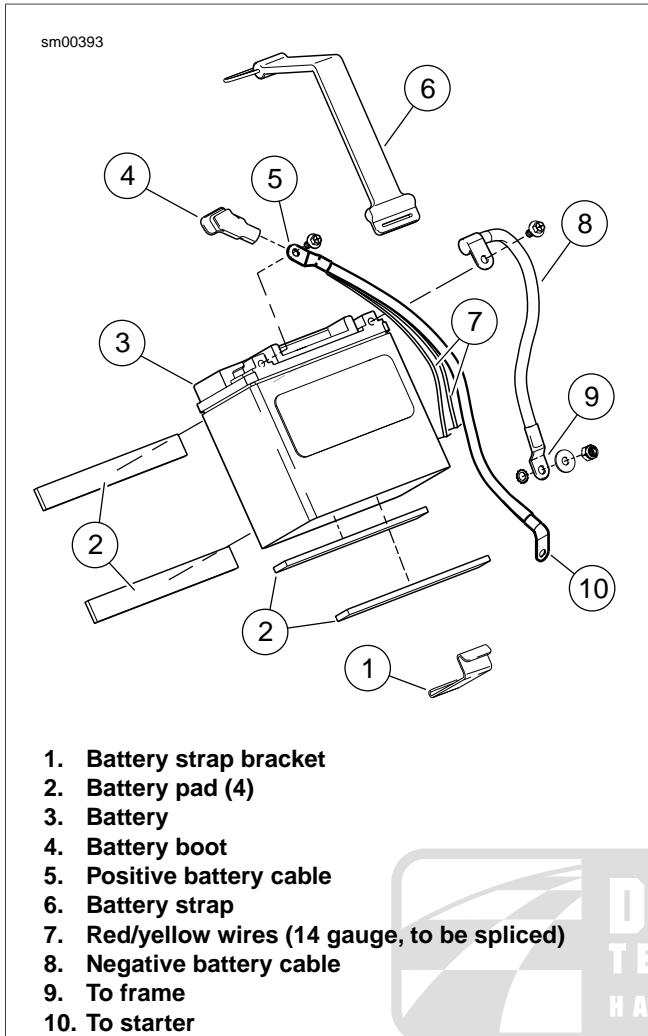
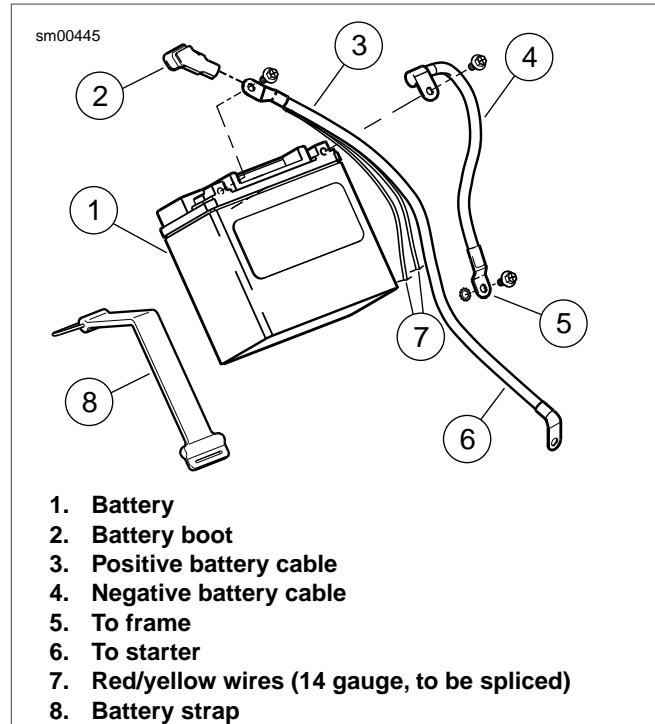

Figure 6-17. Battery: Firebolt
Figure 6-18. Battery: Lightning/Ulysses
1. See Figure 6-17 (Firebolt) or Figure 6-18 (Lightning/Ulysses). Disconnect negative and positive cables from battery, negative cable first.